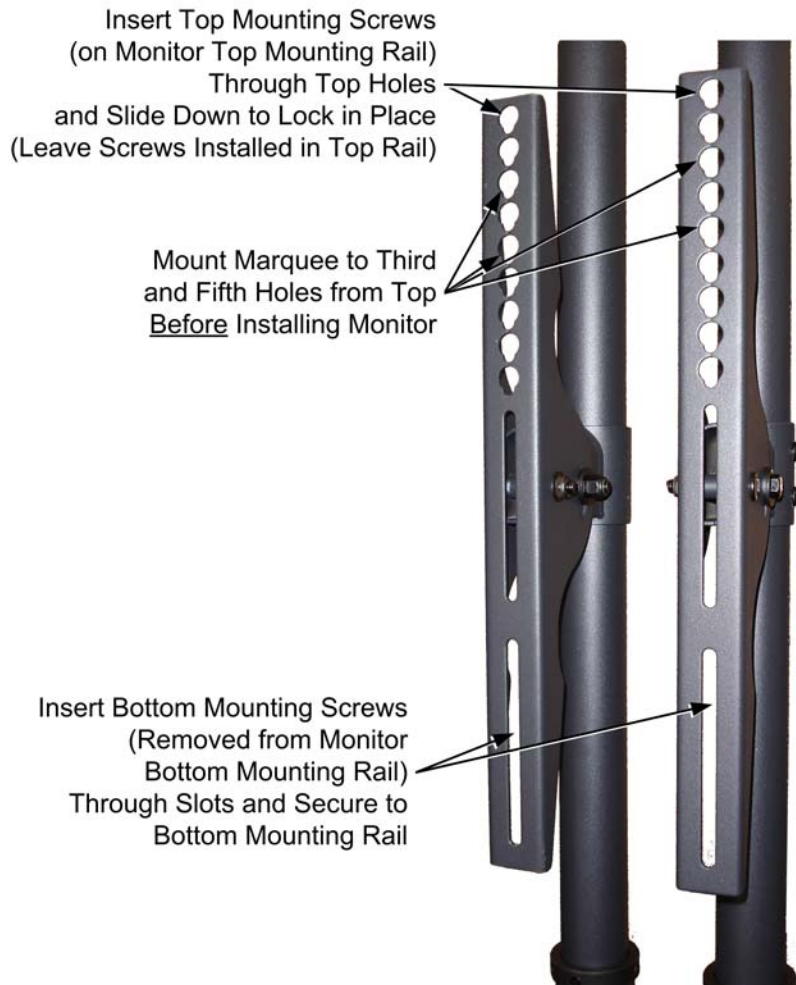

Figure 9. Vertical Rails on Monitor Stand
2. Place the monitor on the stand so the top mounting screws go through the top hole in each of the vertical rails (see Figure 9). They will slide down and lock into place. This puts the monitor at the optimal viewing height. (**Note:** Do not change the height of the tubular supports.)